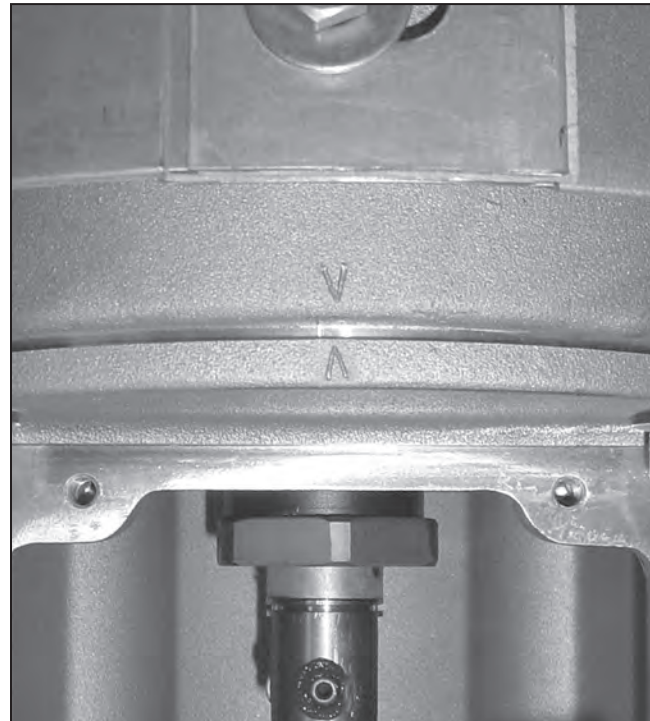

Figure 15. Aligning the positioning mark on the interrupter with the mark on the transition box.
- (d) Make sure the positioning mark stamped on the bottom of the interrupter is aligned with the position mark stamped on the top of the transition box. See Figure 15.